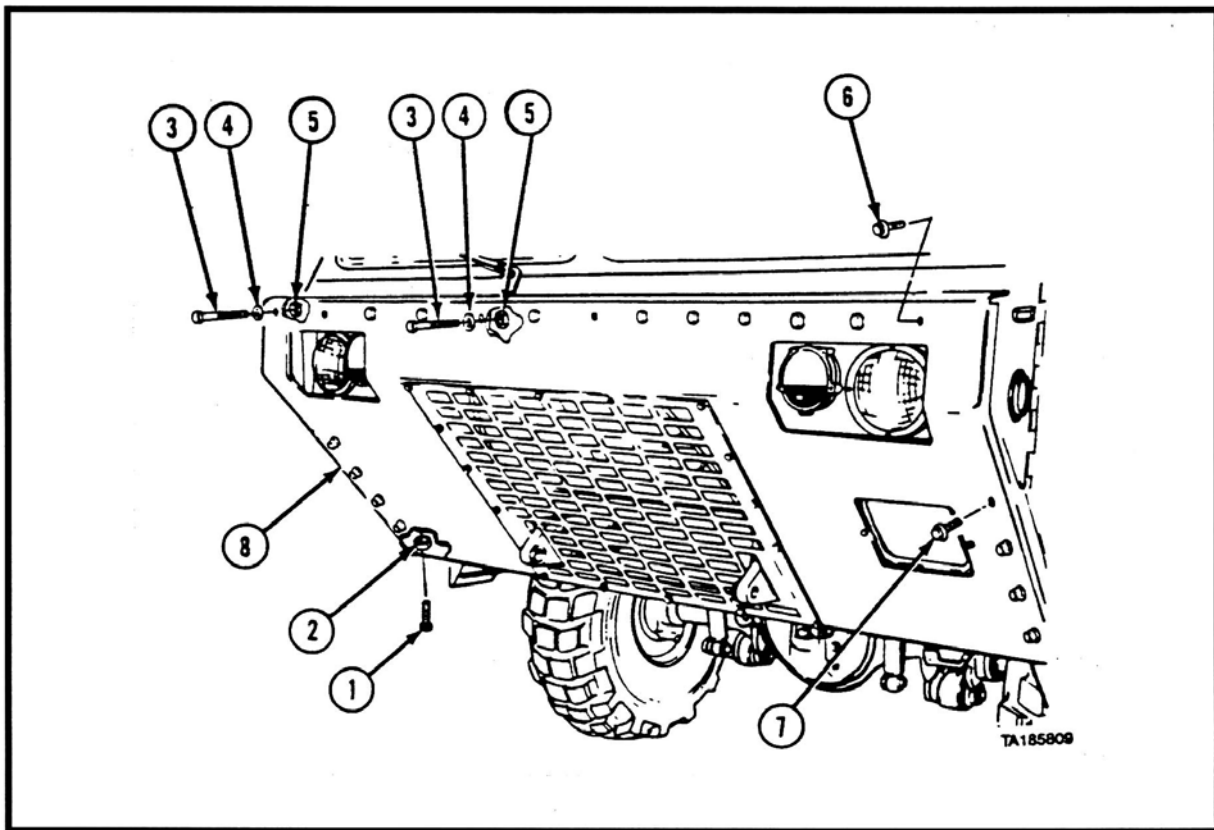

Figure 5. Removing the Skid Plate.
1. Remove nine screws (Item 1 in Figure 5) and nuts (2) from the Skid Plate.